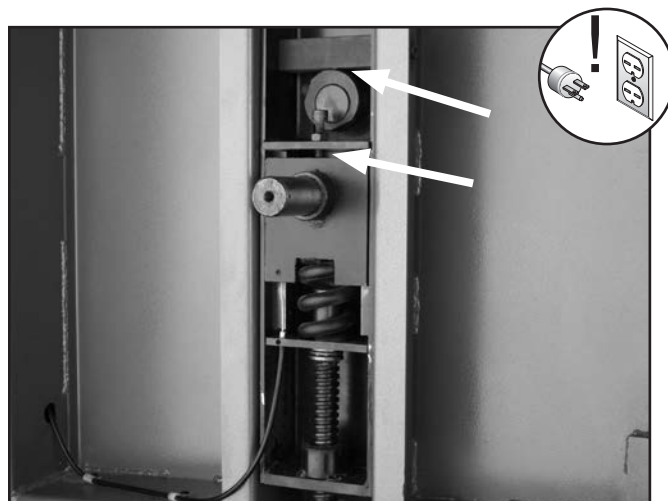

Figure 92. Example of tension adjustment assembly locations (top wheel removed for clarity).
4. Apply a thin coat of NLGI#2 grease to the tension adjustment assembly and tension lever cam (see **Figure 92**).